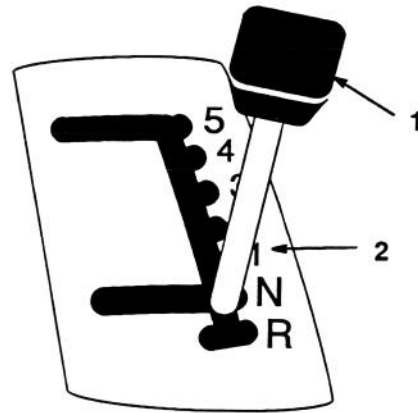

**Figure 8**
After adjusting the hydro neutral position it is necessary to check the traction control pedal. While pressing the control pedal full forward and full reverse it must not contact the footrest pad before hitting the stop(s) at the transaxle (Fig. 8).
2. Loosen the capscrews below the right footrest. Slide the pedal in the slots away from the direction that made contact with the footrest (Fig. 8).